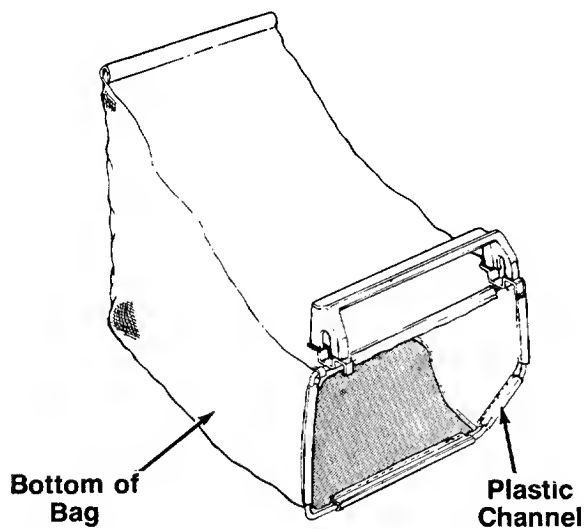

FIGURE 10.
1. Place bag over frame (black plastic side is the bottom of bag). Handle on frame goes to the top of bag. Brackets hook toward the front. See figure 10.
2. Secure bag to frame by slipping plastic channels on bag over frame. See figure 10.